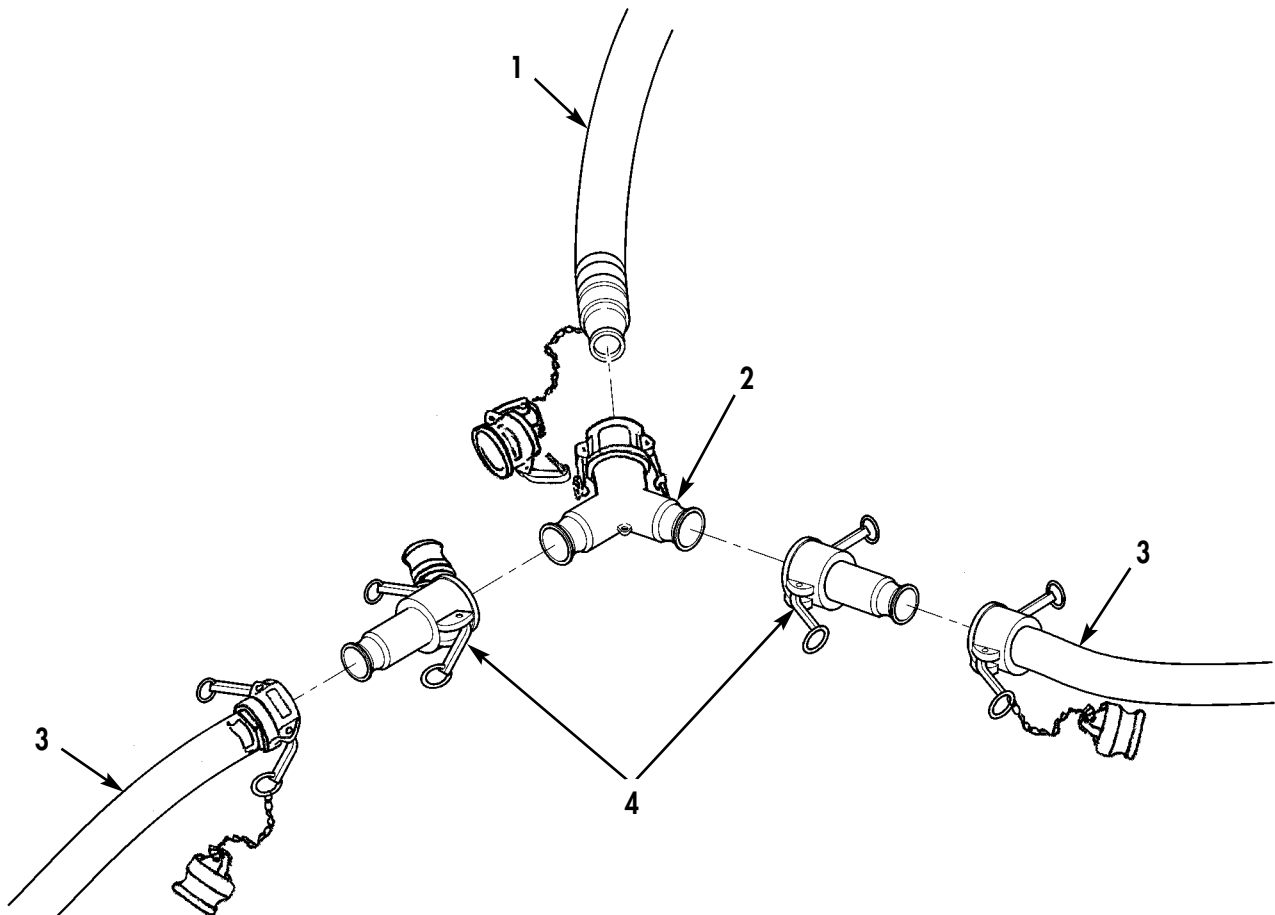

Figure 5. Disconnecting Hoses from Reducers and Nozzles.
11. Remove two 2 in. (51 mm) DIA x 25 ft (7.6 m) long discharge hose assemblies (Figure 5, Item 1) from two Y-fittings (Figure 5, Item 2). Lift each hose assembly (Figure 5, Item 1) over shoulder and walk hose line to drain water, then install caps and plugs on two hose assemblies (Figure 5, Item 1).
12. Remove four 1.5 in. (38 mm) DIA x 25 ft (7.6 m) long discharge hose assemblies (Figure 5, Item 3) from four reducers (Figure 5, Item 4) and four nozzle assemblies (Figure 5, Item 5). Lift each hose assembly (Figure 5, Item 3) over shoulder and walk hose line to drain water, then install caps and plugs on four hose assemblies (Figure 5, Item 3).
13. Remove four reducers (Figure 5, Item 4) from two Y-fittings (Figure 5, Item 2).